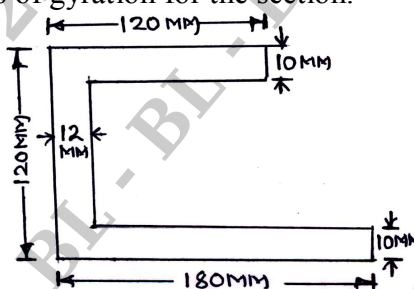

Fig.Q.7(b)
b. Determine the moment of inertia of the section as shown in Fig.Q.7(b) about its centroidal axis. Calculate the least radius of gyration for the section. (12 Marks)